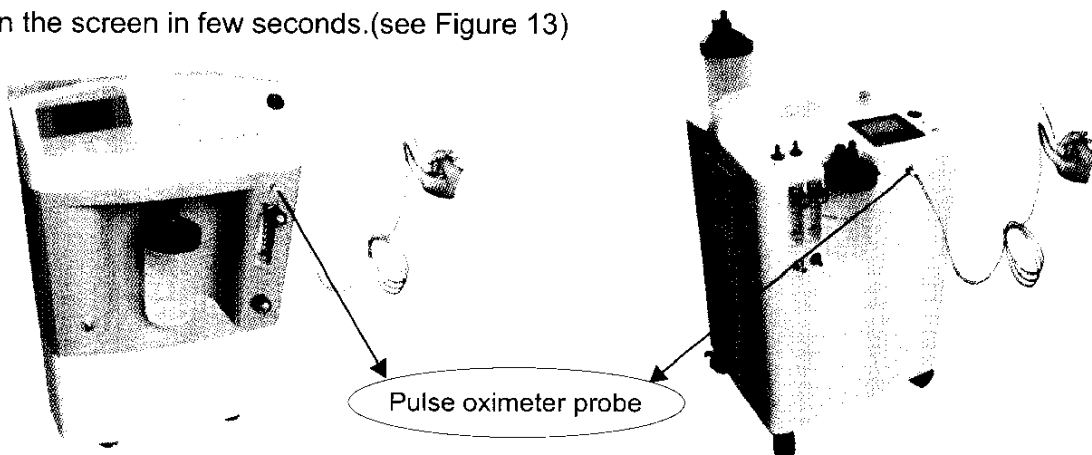
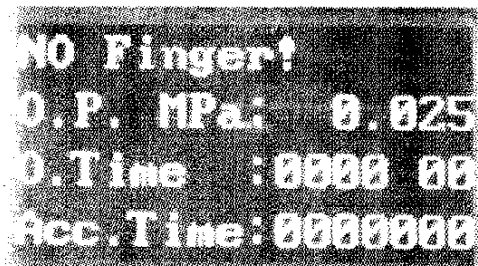

Figure 11
Figure 12
1. Insert the pulse oximeter probe joint to the pulse oximeter connector on the oxygen concentrator.(see Figure 11), and the LCD will show the Figure 12.